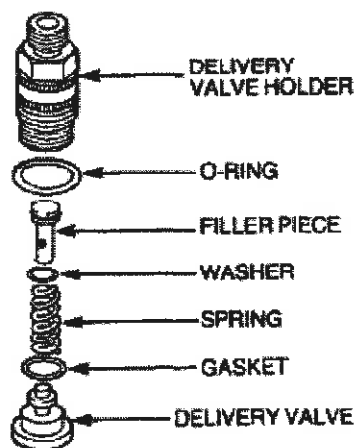

Figure 10 Delivery Valve - Removal
- Remove the delivery valve holder, O ring, filler piece, washer, spring, gasket and the delivery valve assembly (Figure 10).
- r.** Install the delivery valve, gasket, spring washer, filler piece, O ring and delivery valve holder (Figure 10).